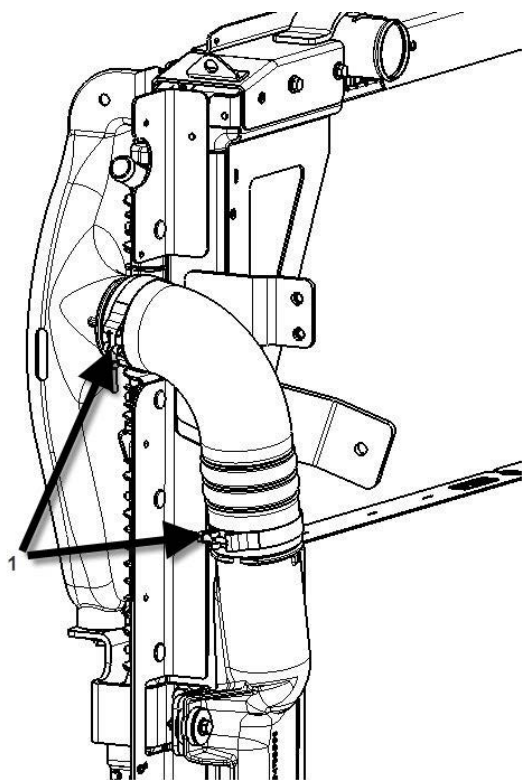

Figure 4 Tightening Hose Clamps
4. Tighten the two hose clamps to 70.8 in-lb (8 N•m) (See Figure 4, page 6).